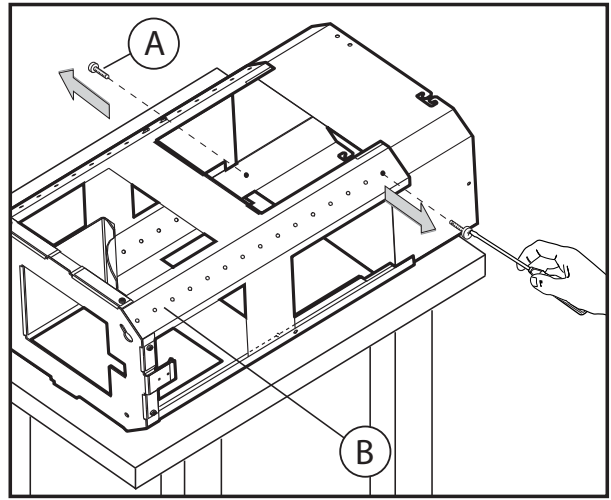

Fig.1
- Remove the structure from the packaging and remove the 2 screws **A** to separate the upper part from the lower part (**Fig.1**).